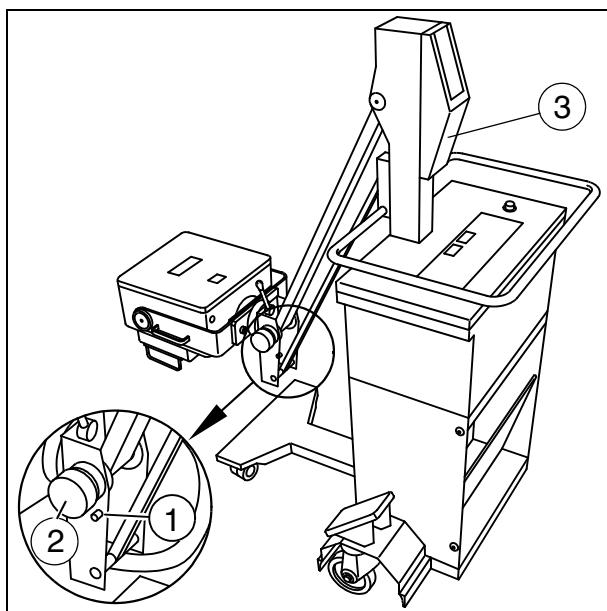

Fig. 1
- Unlock the support arm (1/Fig. 1) and loosen the knob (2/Fig. 1). It should be possible to move the support arm easily without affixed accessories over the entire range and it should come to rest in every position.
- Remove the cover on the stand (3/Fig. 1).
- Release completely the additional brake on the support arm (2/Fig. 1).